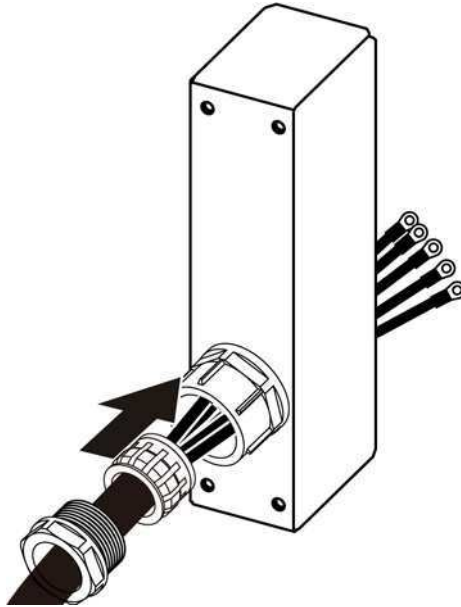

Figure 2-5 Assembling 62050P Input Terminal Safety Cover - 1
- a. Remove the anti-pulling device and then insert the wires to pass through the anti-pulling device and safety cover as Figure 2-5 shows.